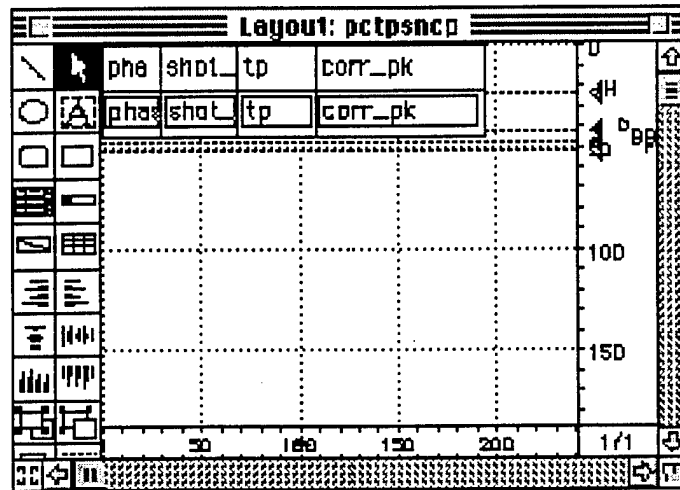

Figure 3.21: Newly created layout for `ecc_measure`
7. A layout like the one shown in Figure 3.21 will now be displayed. Since this layout is good enough for display purposes, close this window and switch to the **User** environment.